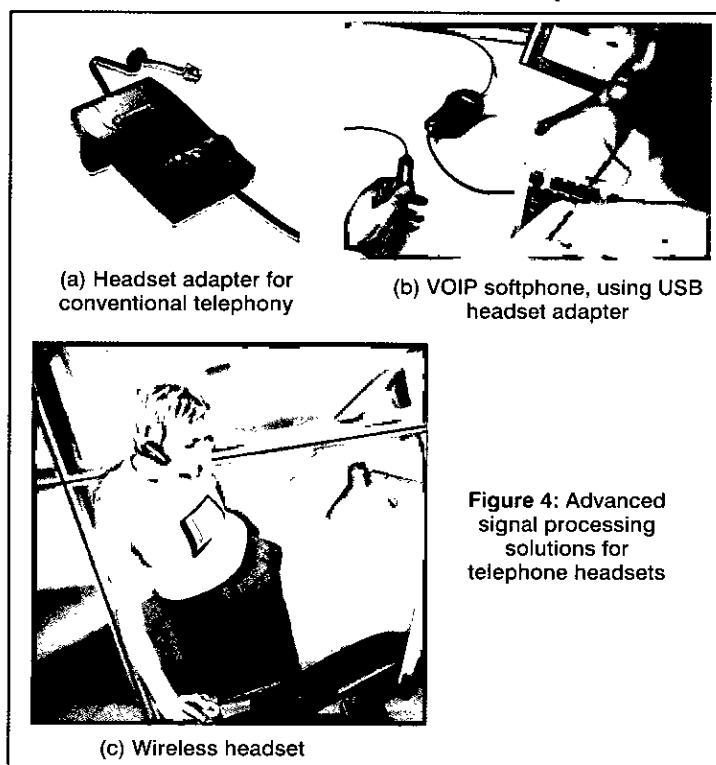

Figure 4: Advanced signal processing solutions for telephone headsets
Some headset adapters, such as Plantronics' DA60 USB adapter for IP softphones (Figure 4(b)), continuously monitor the sound level in the headset and provide TWA noise exposure calculations and graphs of sound pressure level versus time. Other adapters limit daily personal noise exposure below the 85dB(A) lower action level, under certain operating conditions (restrictions on headset model, hours usage per day, etc). However
headset (Figure 4(a)), between a PC and headset (Figure 4(b)) for calls made on a VOIP softphone, or in devices such as Bluetooth or DECT wireless headsets (Figure 4(c)).